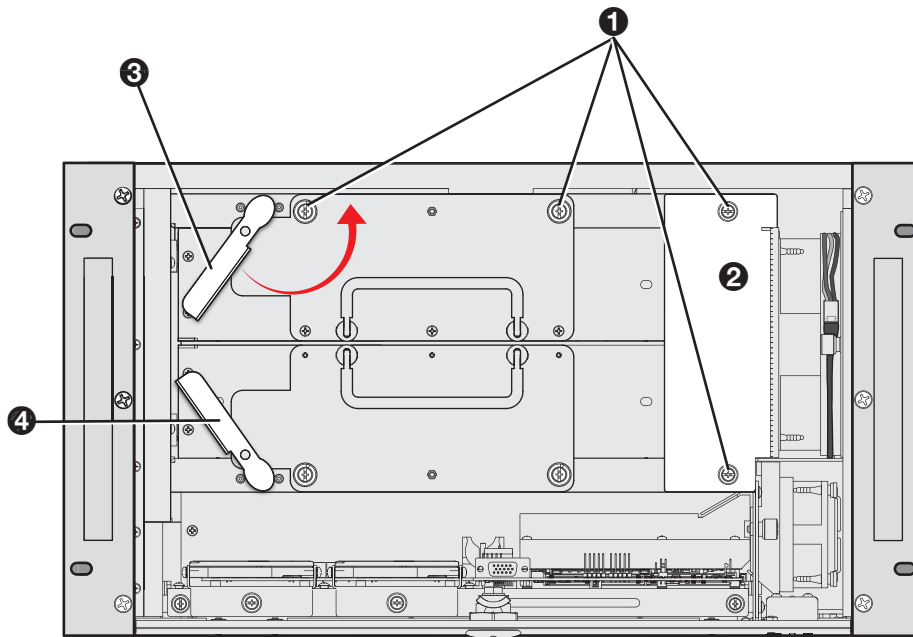

Figure 1. Unfastening the Power Supply
1. Using a screwdriver or other tool, loosen the two thumbscrews on the power supply and the two thumbscrews on the protective cover panel (see figure 1, ①).
2. Remove the cover panel (②).
3. Rotate the primary power supply lever to the right (③) until it is in a horizontal position, parallel to the top and bottom of the unit.
NOTE: If you are removing the **redundant power supply**, rotate **its** lever (see figure 1, ④) to the right instead of the primary supply lever (③).